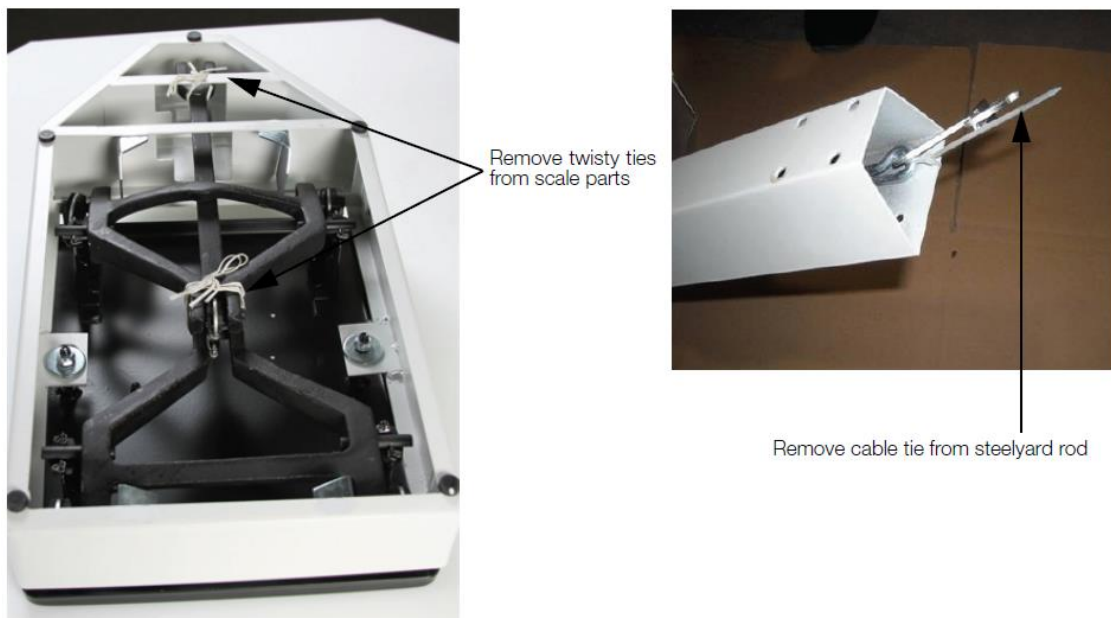

Figure 2-1. Remove Cable Ties and Cable Ties
1. Set the scale base on a table or other convenient place with the bottom facing upwards (shown in left side photo in Figure 2-1)
2. Remove twisty tie off of the scale base as shown on the left hand side of Figure 2-1. Remove the cable tie that holds the steelyard rod from shifting during transit (shown in right side of Figure 2-1.)